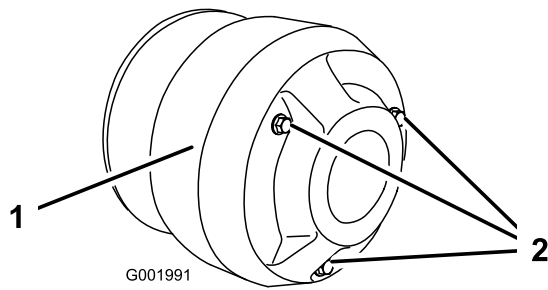

Figure 59
4. Remove the 3 bolts securing the cover to the clutch and remove the cover (Figure 59).